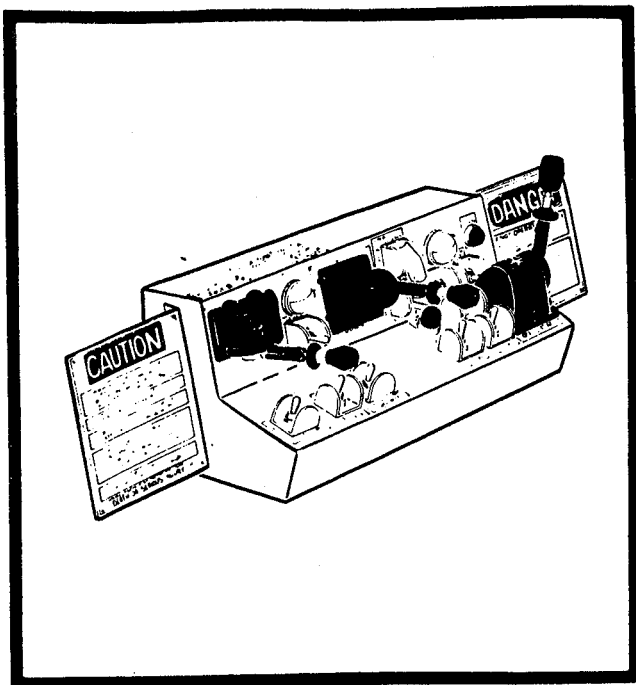

Figure 3-2. Platform Station.
b. Platform Station. (Figure 3-2.)